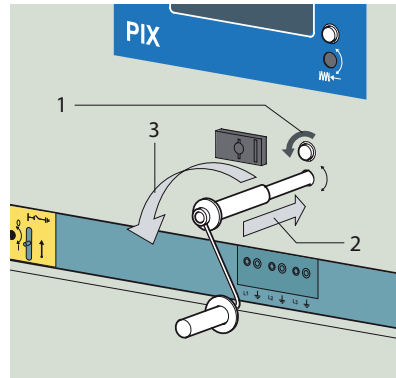
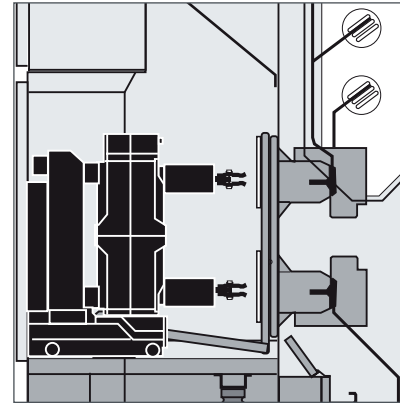

Figure 46
Figure 47
1. Open cover (Figure 46, 1) and insert crank (2).
2. Turn crank counter-clockwise (3) until the truck has been racked out. Remove crank.
3. Check position of truck (Figure 47) through the inspection glass.